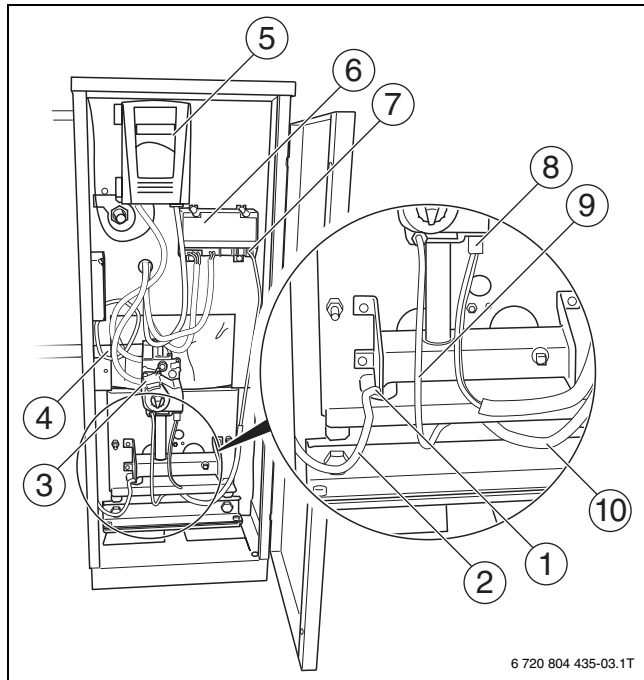

Fig. 3 Front view
- Remove igniter cable from ignition module (→ figure 3, [6]).
- Disconnect cable connector from bottom of gas valve (→ figure 3, [3]).
- Label cables to the flame roll-out switch, then remove cable (→ figure 3, [2]).